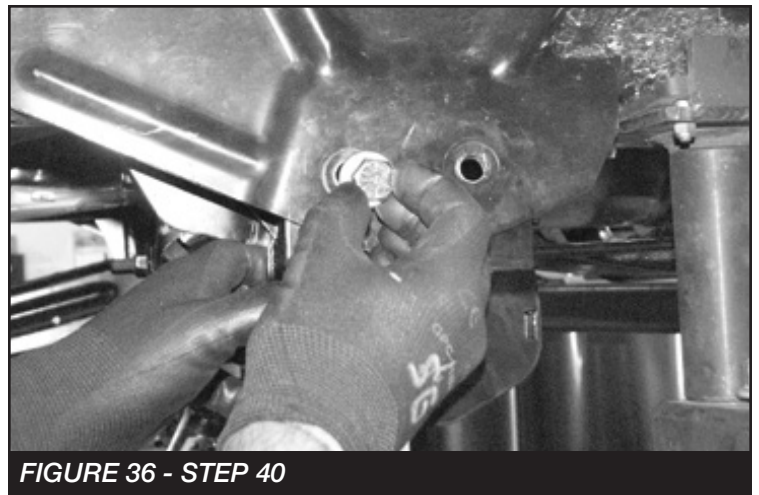

FIGURE 36 - STEP 40
40. Locate four 1/2"-13 x 1-1/4" bolts, nuts and washers. Use these bolts to mount the radius arm drop bracket to the factory bracket. Leave loose at this time. **SEE FIGURE 36**